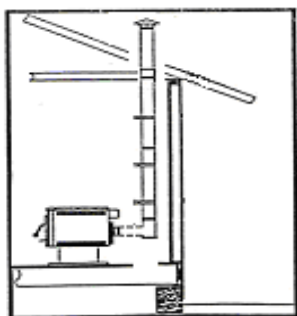

Figure 14
(Figures 14, 15, 16, 17, & 18)
1. **Vertical, through the ceiling**, through another room or space, or attic, then through the roof terminating with a rain cap. Figure 14